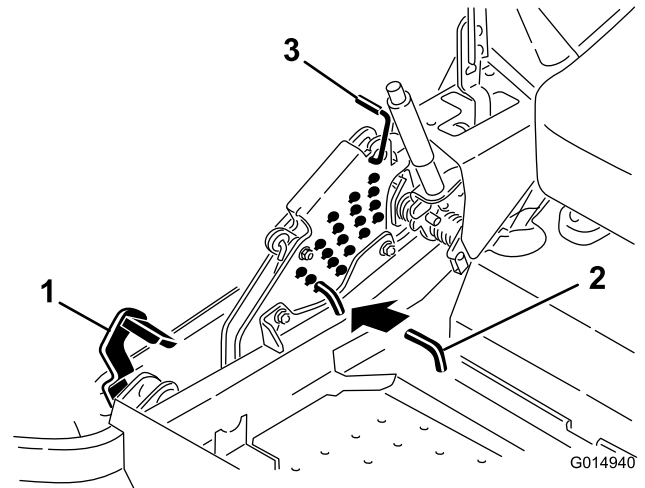

Figure 27
2. Push on the deck lift pedal with your foot and raise the mower deck to the transport position (also the 4-1/2 inch (114 mm) cutting height position) (Figure 27).
3. To adjust, rotate the pin 90 degrees and remove the pin from the height-of-cut bracket (Figure 27).
4. Select a hole in the height-of-cut bracket corresponding to the height-of-cut desired and, insert the pin (Figure 27).